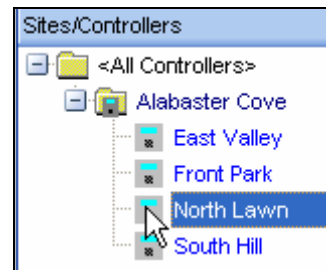

Figure 16.1.3C
2. Next select a controller by clicking on it to highlight (Figure 16.1.3C).